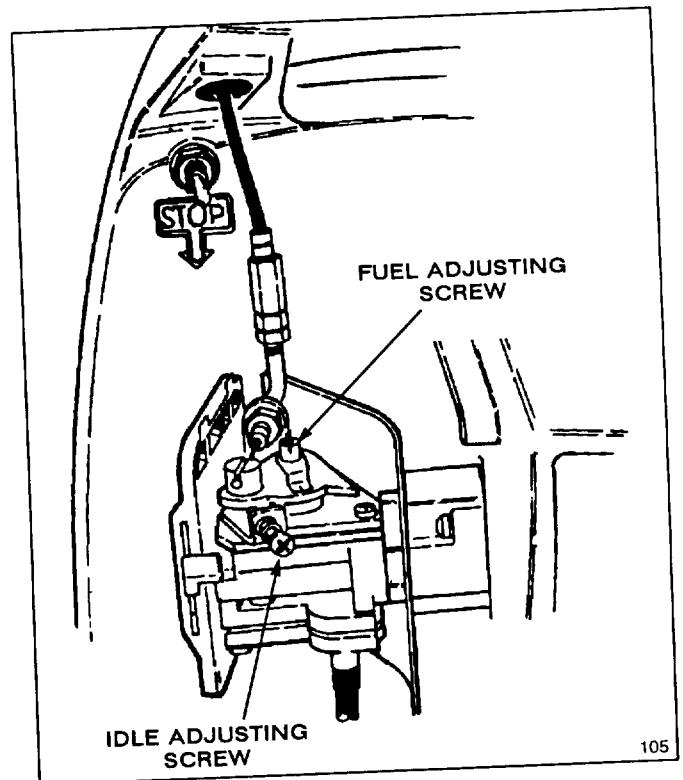

Figure 7
ADJUSTING CARBURETOR (Fig. 7)
1. Fuel Adjusting Screw—Screw is set in the middle of five notches. If adjustment is too rich, turn screw to the right. If adjustment is too lean, turn screw to the left (Fig. 7). Adjust while engine is at low speed.
2. Idle Speed Adjusting Screw—Adjust screw to attain idle speed of 3000–3200 RPM (Fig. 7).